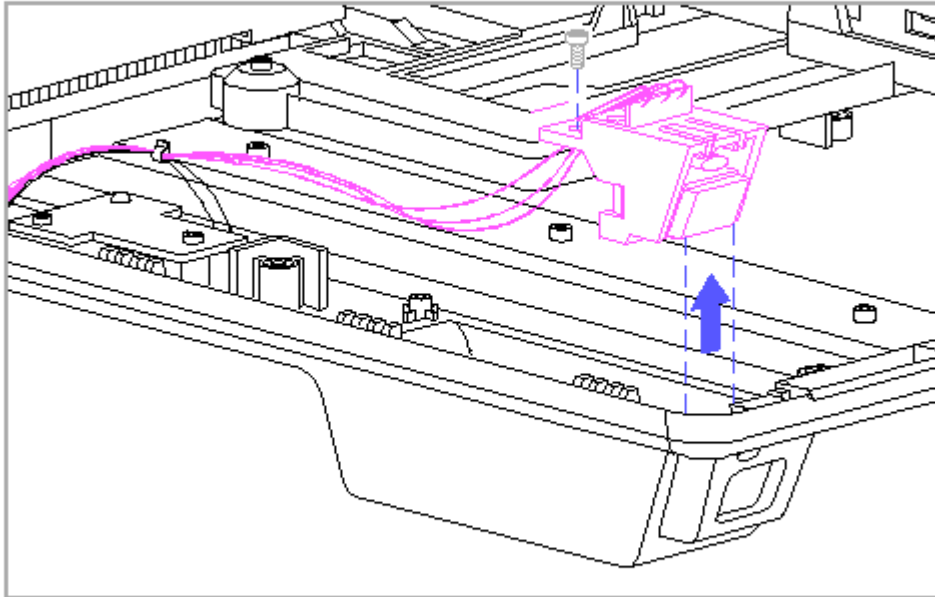

Figure 9-46. Removing the Eject Switch from the Top Cover
4. Remove the eject switch screw (Figure 9-46).
5. Remove the eject switch from the top cover (Figure 9-46).